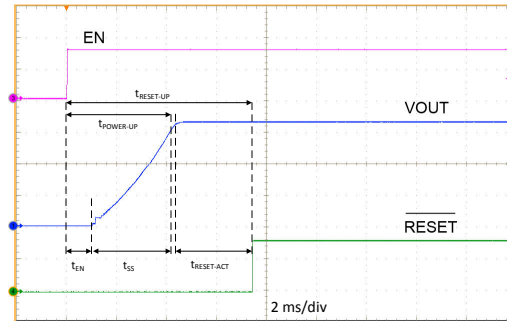

Figure 8-4. Typical Start-Up Waveform
- A delay has been added between the point at which the output voltage is within specified limits and the flag asserts Power Good. A glitch filter prevents false flag operation for short excursions in the output voltage, such as during line and load transients. See Figure 8-3 and Figure 8-4 for more detail.
A typical start-up waveform is shown in Figure 8-4 along with timing definitions. This waveform indicates the sequence and timing between the enable input, output voltage, and $\overline{\text{RESET}}$. From the figure, the user can define several different start-up times depending on what is relevant to the application. Table 8-1 lists the timing definitions and typical values.